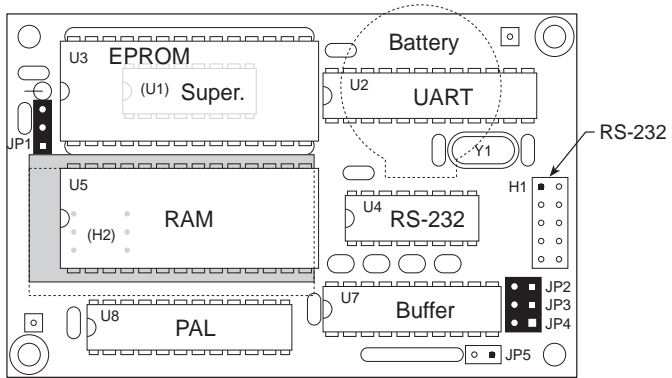

Figure 2-9. CM7100 Development Board
6. Check the jumpers on the Development Board. Figure 2-9 shows the locations of the relevant headers.